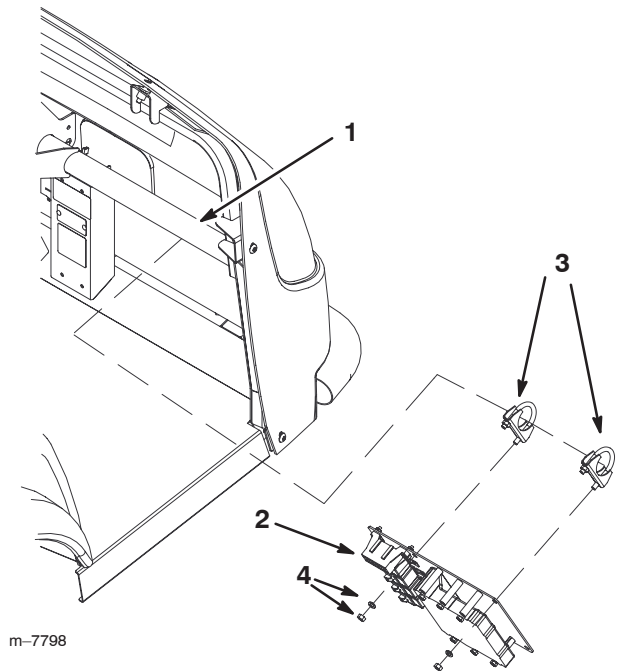

Figure 7
- For the Workman 200 Spray System, install the mount plate using 2 U-bolt clamps (5/16 x 3/4 inch) 2 nuts (5/16 inch) and 2 lock washers (5/16 inch) as shown in Figure 7.